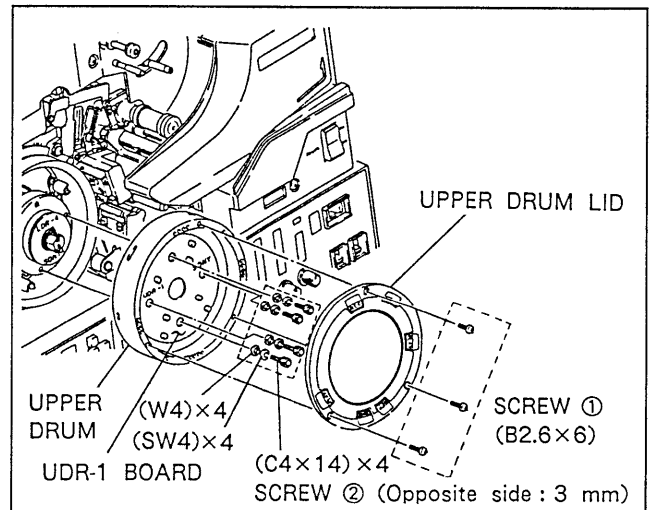

Fig. 6-1-1. Upper Drum Replacement
1. Remove the three screws ① shown in Fig. 6-1-1, and remove the upper drum lid.
2. Remove the four screws ② (including spring washer and flat washer) and remove the upper drum.